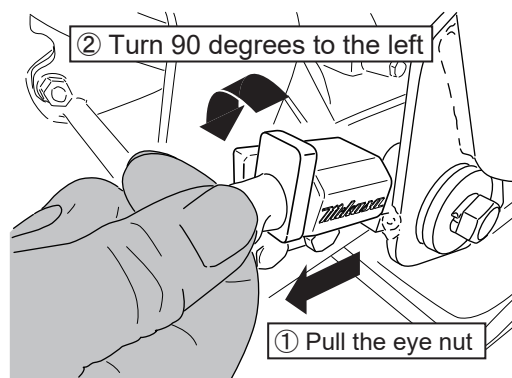

Fig.17
5. Pull the eye nut of handle stopper, then turn it to the left 90 degrees (fig. 17).